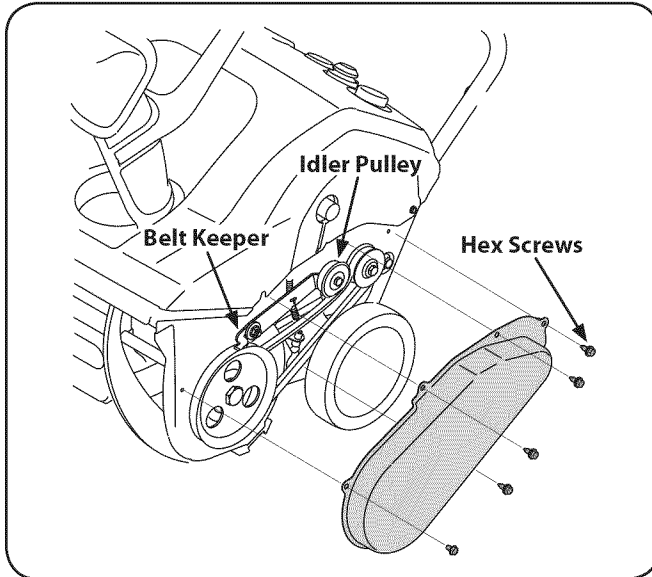

Figure 8-1
1. Remove the belt cover by removing the five hex screws that secure it to the frame. See Fig. 8-1.
**NOTE:** Push down on the idler pulley to release the belt from under the belt keeper. See Fig. 8-1.